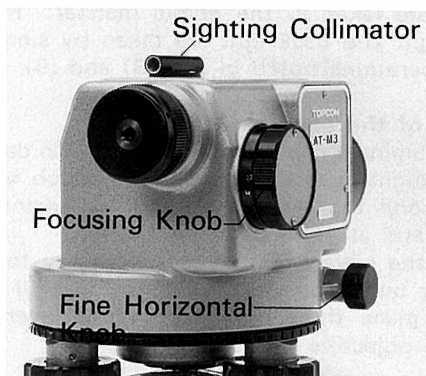

Fig. 12
- (7) Align the telescope with the target, using the sighting collimator on top of the telescope. Focusing will be speeded up if the visually-estimated distance is set to the distance scale on the focusing knob, at this time. (See Fig. 12)